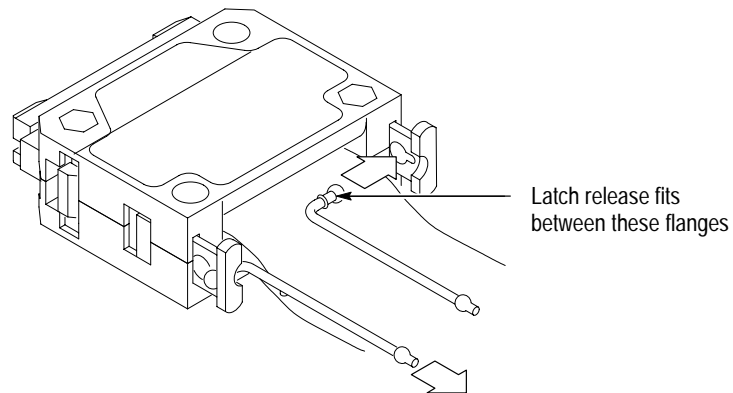

Figure 15: Reattaching the latch release cords to the latch releases
1. Place the latch release cords into the latch releases as shown in Figure 15.